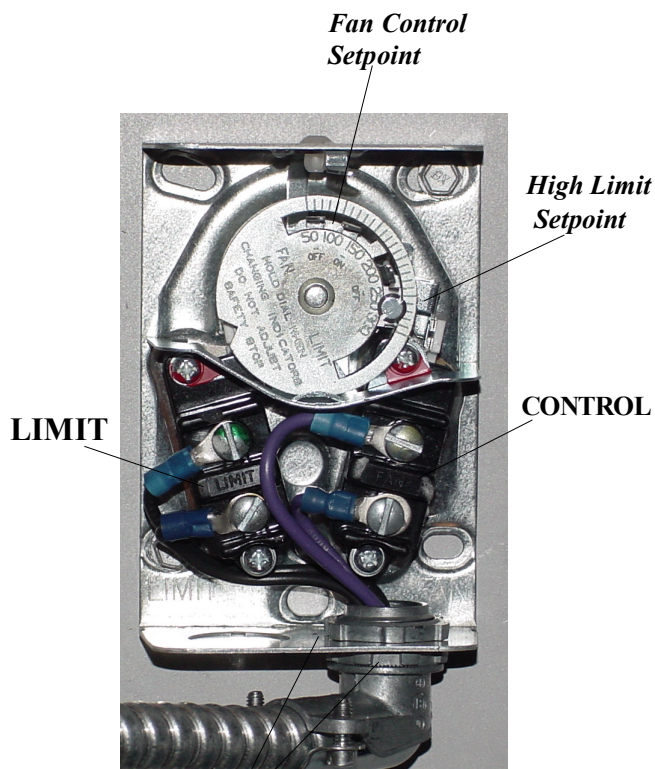

Fig. 36
4. Pry out one of the bottom knockouts of the Fan Control. Install the 90 degree flex connector as shown in Fig. 36. One of the locknuts stays on the outside of the box and one goes on the inside to tighten the connector into place. This allows for maximum room for the wires around the switches.
5. **REMOVE THE COPPER JUMPER BETWEEN THE LIMIT AND CONTROL SWITCHES. (It is not needed.)** Figure 36 shown with copper jumper that has already been removed.
6. Connect the two VIOLET wires to the FAN CONTROL switch. (It doesn't matter which wire is on which screw). See Fig. 36.
7. Connect the WHITE and SKY BLUE wires to the LIMIT switch. (It doesn't matter which wire is on which screw). See Fig. 36.
10. FAN CONTROL setup: Move both fan control pointers together until they touch, then rotate both pointers together until the gap between them is directly over the middle 0 of 100. See Fig 36.